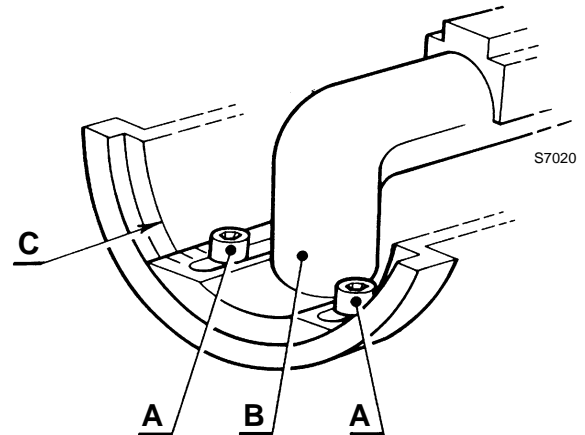

Fig. 9
- loosen the two screws A)(Fig. 9), move the elbow B) so that the rear plate of the coupling C) coincides with the desired notch;
- loosen the two screws A)(Fig. 9) without removing them;